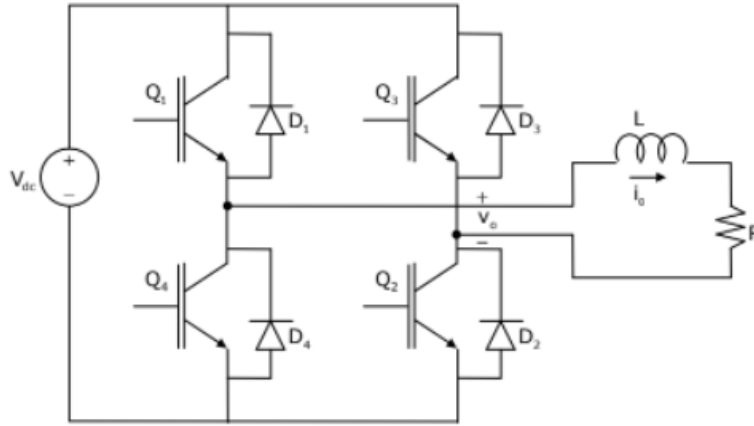

Figure 2
- The full-wave inverter is shown in **Fig. 2** below with components labeled as in the image. Determine which set of components among $Q_1, Q_2, Q_3, Q_4; D_1, D_2, D_3, D_4$ will be in conduction mode when $V_{out} < 0$ and $I_{out} > 0$.